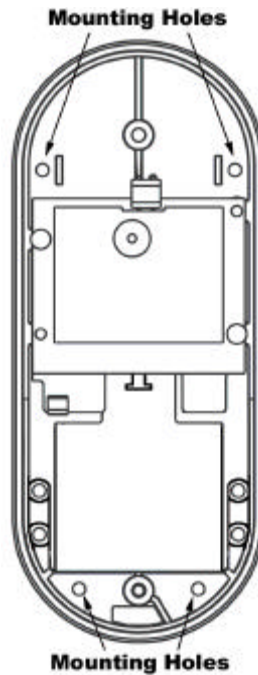

Figure 2-7 – Transceiver Mounting Holes
- 2.6.2 Position the Transceiver Base Plate so that it is flush against the inside of the door and that the lower right mounting hole on the Transceiver Base Plate lines up with the mark made from the template (Figure 2-7).